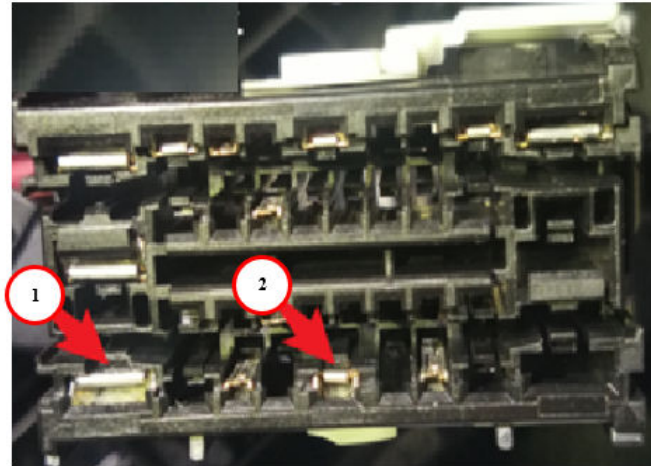

Fig. 5
- Remove the medium and large pins from the connector Fig. 5.